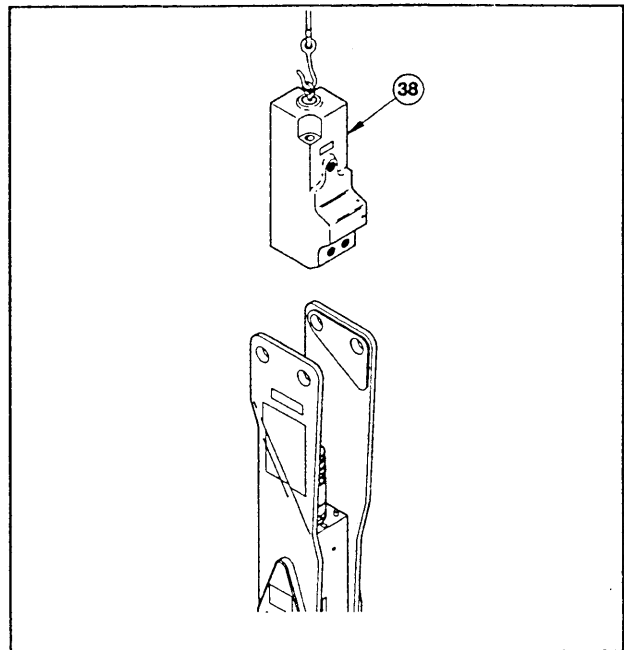

Figure 1.
2. Discharge the accumulator by removing the protective plug from the charge valve assembly (37) using a 3/16 inch hex wrench. Release the nitrogen charge by depressing the charge valve poppet with a #2 Phillips screwdriver or other appropriate blunt tool. Loosen and remove the charge valve if necessary.
3. Unscrew the 2 tie rods (19). **Do not use an impact wrench.** Remove them, the washers (21) and the nuts (10). When handling the tie rods, be careful to protect the threads from damage.
4. Install a 1/2-13 UNC lifting eye into the threaded hole located on top of the main body assembly (38). Lift the main body assembly up and off of the lower body (14). Care should be taken as the seal carrier (29) might be lifted out with the main body assembly. If this happens, the part may fall out of the main body once the main body is lifted free of the lower body. Precautions should be taken to protect the seal carrier and other breaker parts if the seal carrier is lifted out with the main body. See figure 1.